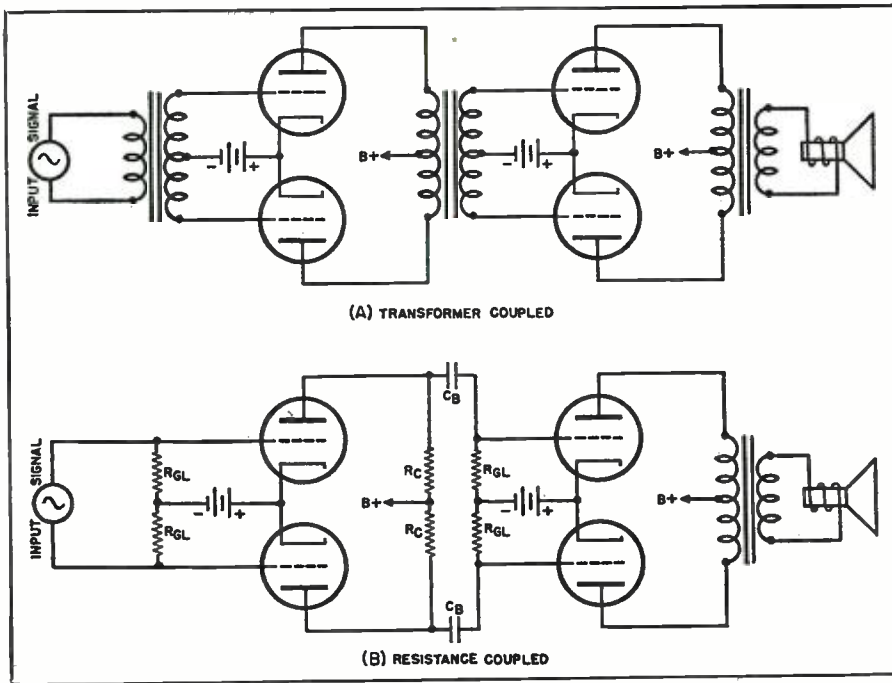

Fig. 4. Transformer and resistance-coupled push-pull stages.
tance, or impedance coupling, as shown at (A) and (B) of Fig. 4. Impedance coupling, of course, is the same as the resistance-coupled arrangement in (B) except that impedance coils replace the plate circuit load resistors ( $R_c$ ).